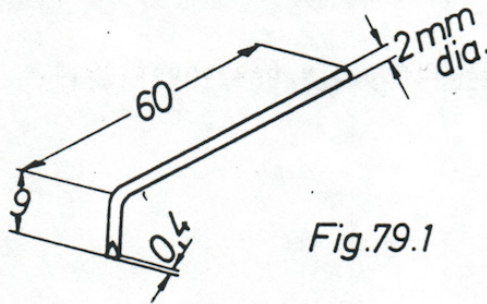
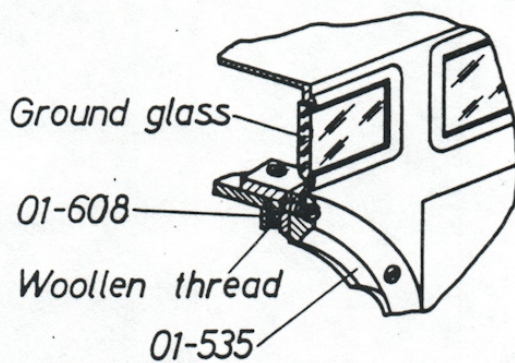

Fig. 79.1
Fig. 80.1
1. Metal hook (see Fig. 79.1)
This fault is cured by cementing a soft black woollen thread, about 1.5 to 2 mm thick and 24 mm long, into the light channel. Coat the surface of the thread with Teroson fluid, then push it into the channel between the bayonet ring 01-535 and the spring washer 01-608 (see fig. 80.1) with a bent metal hook (see fig. 79.1). Be sure to stick both ends of the thread well into the corners of the channel (see fig. 81.1).